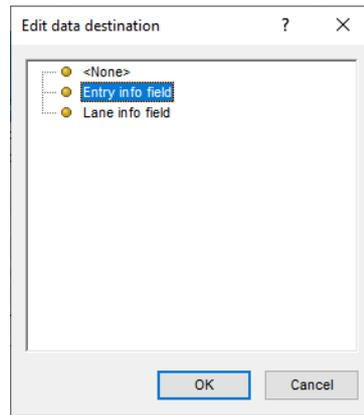

Figure 9: Link to an "Entry info field".
6. In the *Edit data destination* dialog box, click on **Entry info field** (see Figure 9) and press **<OK>**.